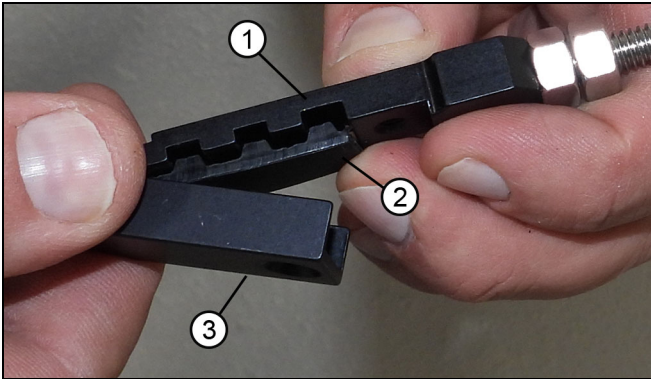

Figure 40
7. Fasten belt to turnbuckle, completing the loop. See Figure 40.